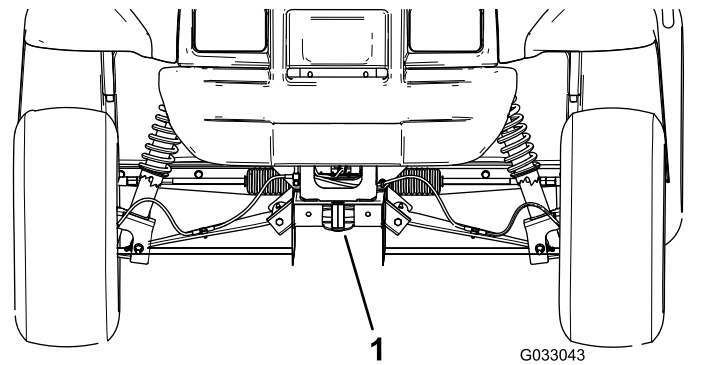

Figure 19
- The lifting point at the front of the machine is located at the front of the frame, behind the towing tongue (Figure 19).